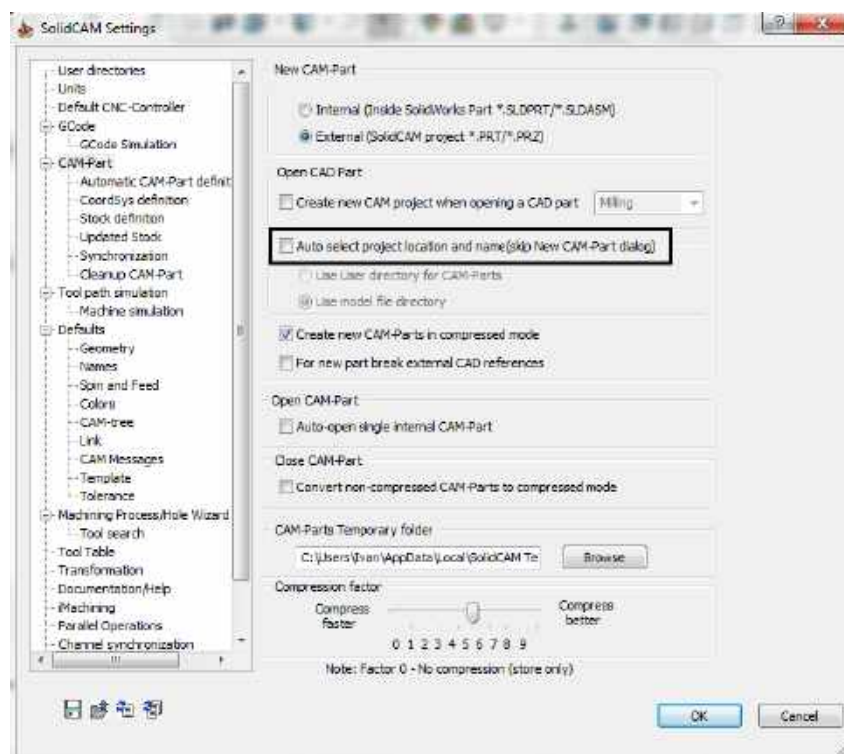

Fig. 1. SolidCAM Settings
1. Auto select project location and name... (Fig. 1).